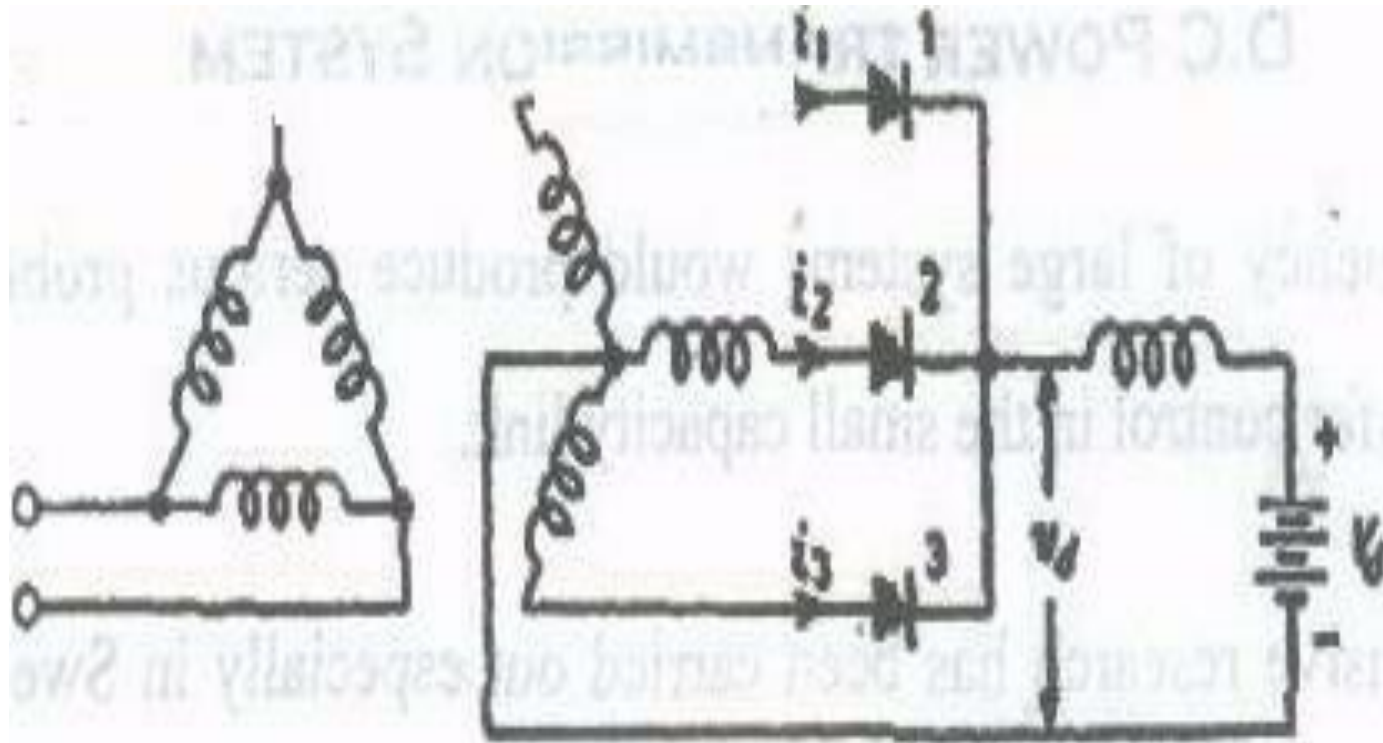

Figure 1: 3-Phase Rectifier
- The 3-phase system as shown in Fig. 1 is, however, useful in explaining other connections.
- Figure: 1 shows the current and voltage waveform in the three phases of the supply transformer.